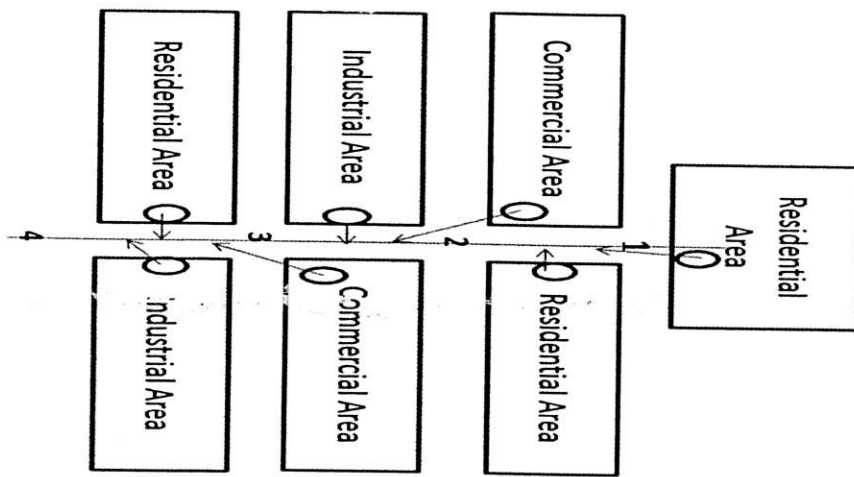

Figure 1: For Problem 8
7. A 7 unit apartment building houses 100 residents generating an average wastewater flow rate of 280 lt. per capita per day. Design a **double chamber septic tank** for the building that will be desludged every 2 yrs. For ensuring better effluent quality, it is recommended that the minimum hydraulic retention time for the tank be 1.0 (one) day. Due to space constraints, specific tank area has to be restricted within 12 m². Assume wastewater temperature within the tank to be 45°C. Check clear space depth. Draw a net sketch showing details of septic tank dimensions and depth of different zones. (15)
8. Calculate sewer diameter/dimensions for the given area detailed in Figure 1. (Table 1& Table 2 for further information) (30)